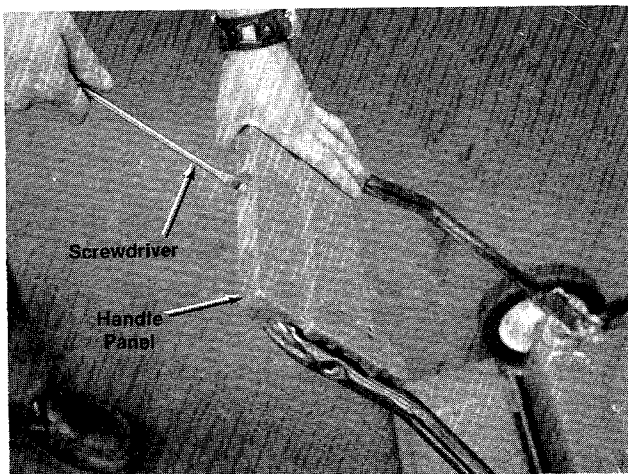

FIGURE 2.
4. Place the handle panel over the lower handle and fasten with the handle panel screw using a 5/16" wrench or screwdriver. See figure 2.